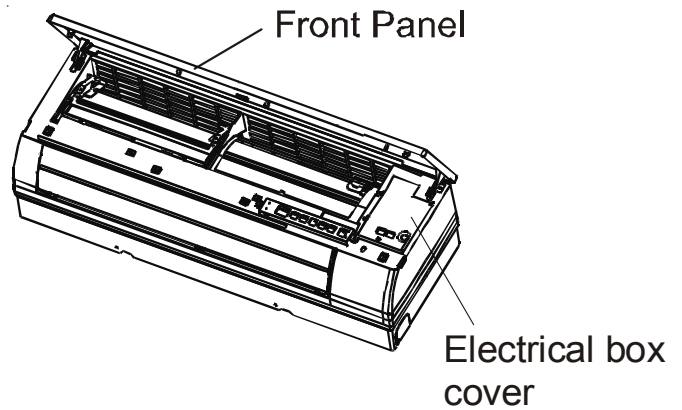

Figure 22
3. Lift up the indoor unit panel, remove the electrical box cover by loosening the screw as show in Figure 22.